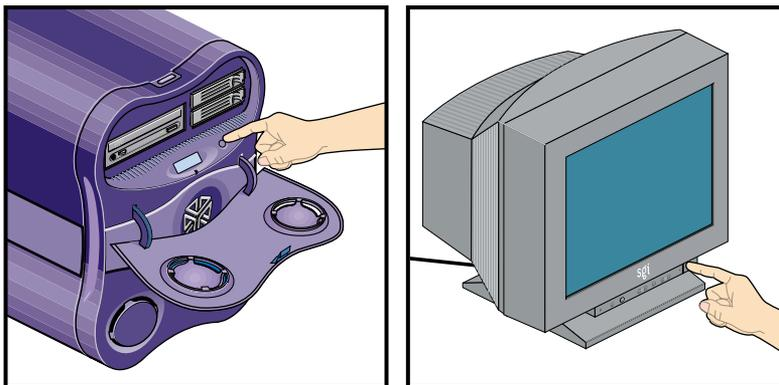

Figure 3-1 Powering Off the System
1. If you are logged in to the workstation, log out. Then, press the power buttons to power off your workstation and monitor (see Figure 3-1).